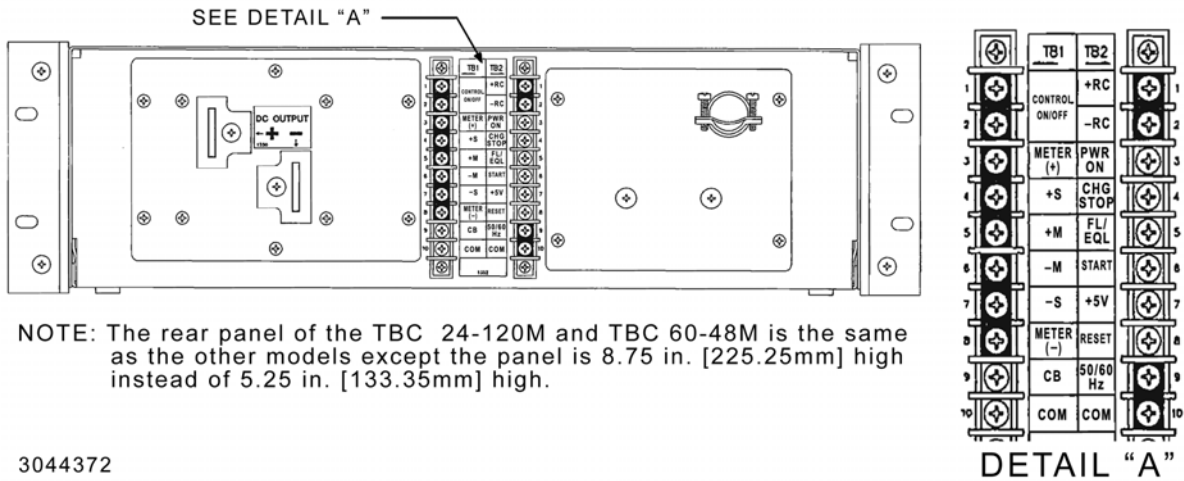

FIGURE 2-3. TBC REAR PANEL
b. **Rear Panel:** The TBC has two output power terminals for connecting to the battery and/or load. It also has two terminal blocks, TB1 and TB2. (see Tables 2-2 and 2-3 for a description of TB1 and TB2 terminals, respectively. Refer to Figure 2-3 for terminal locations.
- a. Terminal Block TB3 on the Chassis Assembly has three terminals: Ground, Neutral and High. The Ground terminal is a chassis ground, and is not the logic ground, nor the Common found on PC Board 1 and pin 10 of Terminal Blocks 1 and 2 (see Figure 2-3).
Up to three identical TBC Battery Charger Power Supplies can be connected in parallel operation, except for models TBC 48-60M and TBC 24-120M, which have two power supplies in parallel that are built into the units. For the TBC 48-60M or TBC 24-120M only one additional TBC unit can be connected in parallel. For parallel operation it is necessary to connect the Current Balance terminals together (terminal 9 on TB1) for all the TBC units in operation (see Figure 2-3).